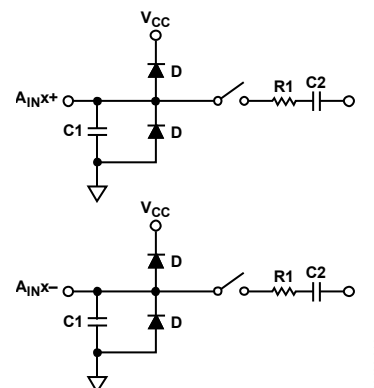

Figure 32. Equivalent Analog Input Circuit, Conversion Phase—Switches Open, Track Phase—Switches Closed
Figure 32 shows the equivalent circuit of the analog input structure of the AD4680/AD4681. The four diodes (D) provide ESD protection for the analog inputs. Ensure that the analog input signals never exceed the supply rails by more than 300 mV. Exceeding the limit causes these diodes to become forward-biased and start conducting into the substrate. These diodes can conduct up to 10 mA without causing irreversible damage to the device.
The C1 capacitors in Figure 32 are typically 3 pF and can primarily be attributed to pin capacitance. The R1 resistors are lumped components made up of the on resistance of the switches. The value of these resistors is typically about 200 Ω . The C2 capacitors are the sampling capacitors of the ADC with a capacitance of 15 pF typically.